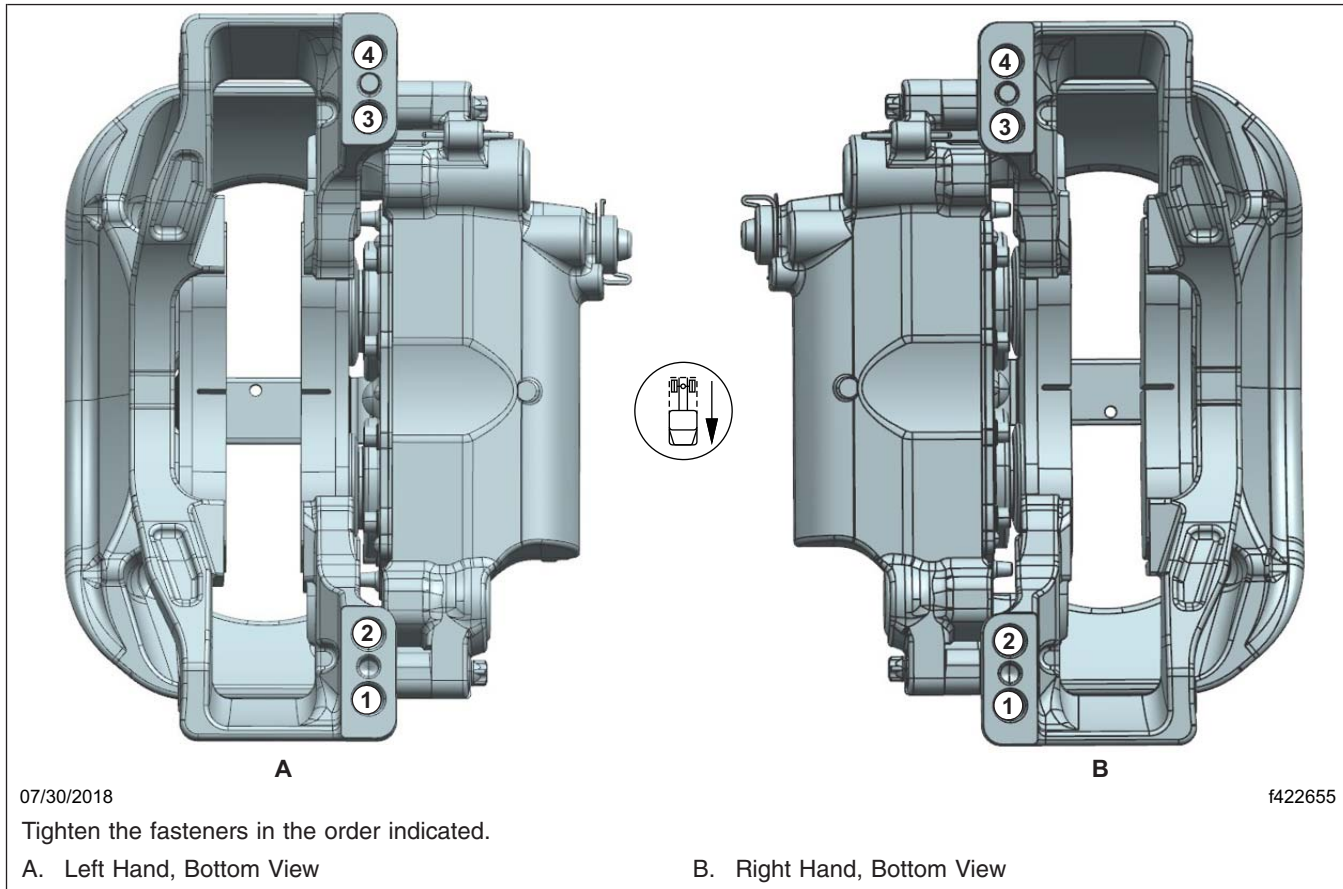

Fig. 7, Meritor Radial Mounted Caliper Tightening Pattern
4. Set a torque wrench to 350 lbf·ft (475 N·m) and tighten the caliper mounting bolts following the tightening pattern shown in **Fig. 7**. If they do not turn, no further work is needed. If they turn, take the vehicle to an authorized Freightliner dealer to have all of the caliper bolts on that wheel end replaced.